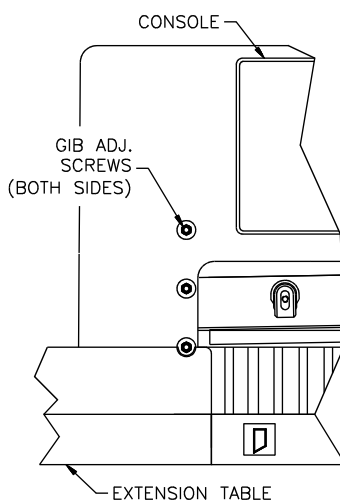

**Figure 43 – Top View of Table**
2. Loosening the lead screw jam nuts (Figure 43).